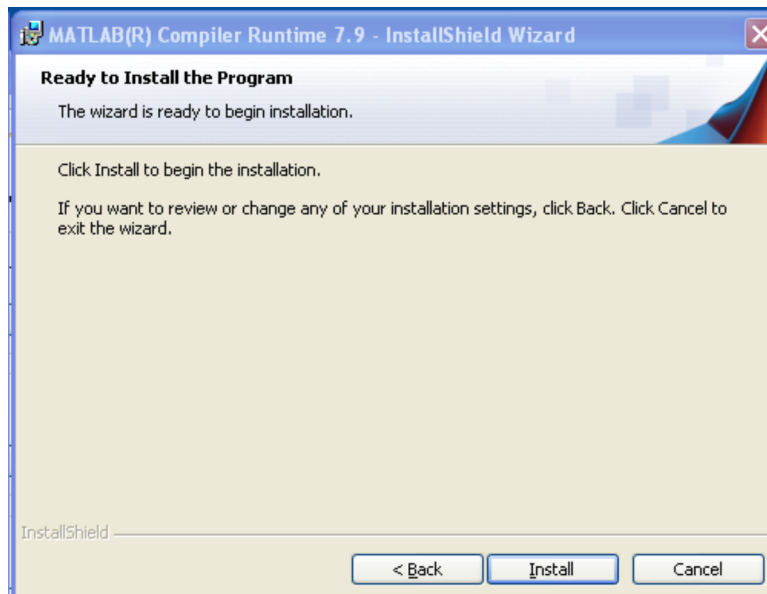

Figure 6. MCR GUI, Ready to Begin Installation
4. Click *Install* or *Back* to change your installation settings, as shown in Figure 6.